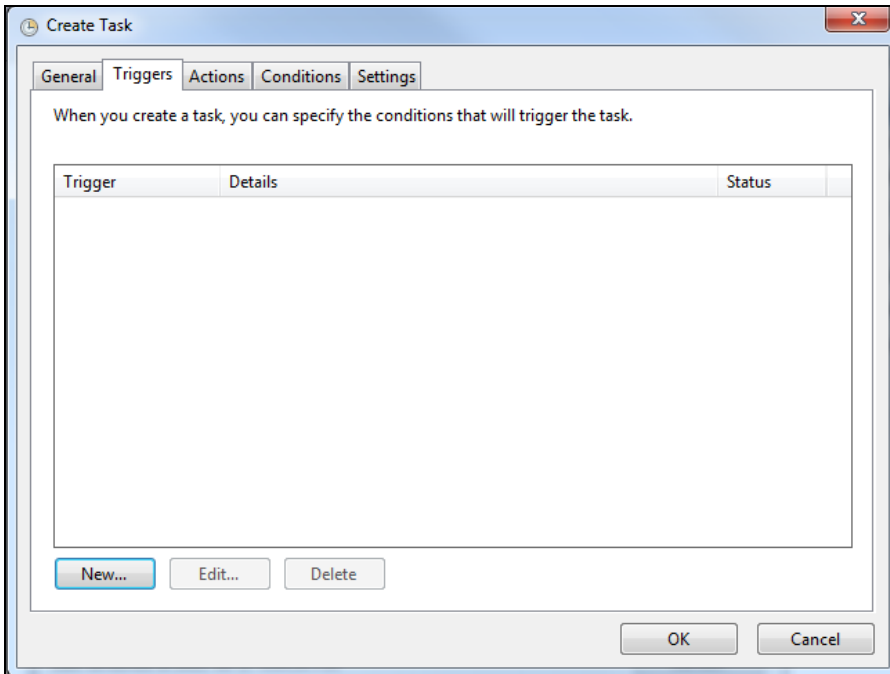

Figure 11: Configuring a Task – Triggers
- d. Under the “Triggers” tab, select “New” (Figure 11).